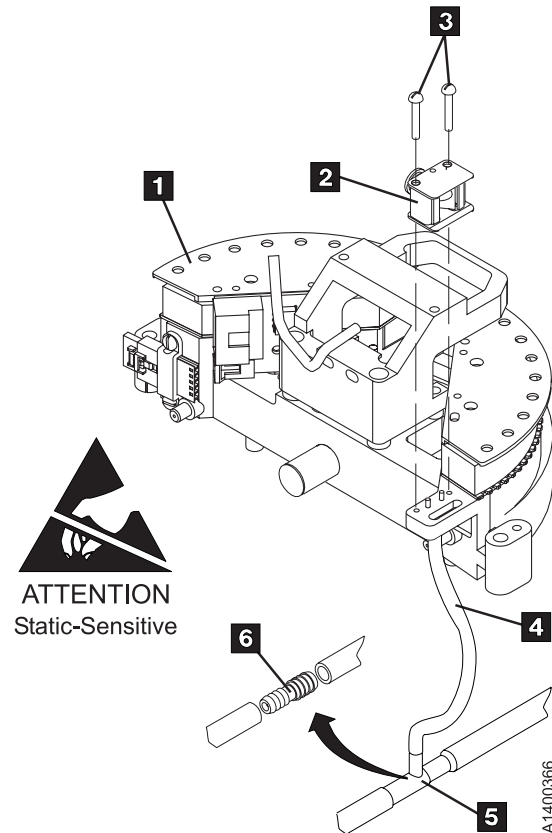

Figure 348. Cleaner Blade Removal
- All of the Model E11/E1A Head Guide Assemblies and most of the Model B11/B1A Head Guide Assemblies will not have the Cleaner Blade shown in Figure 348, item **2**.